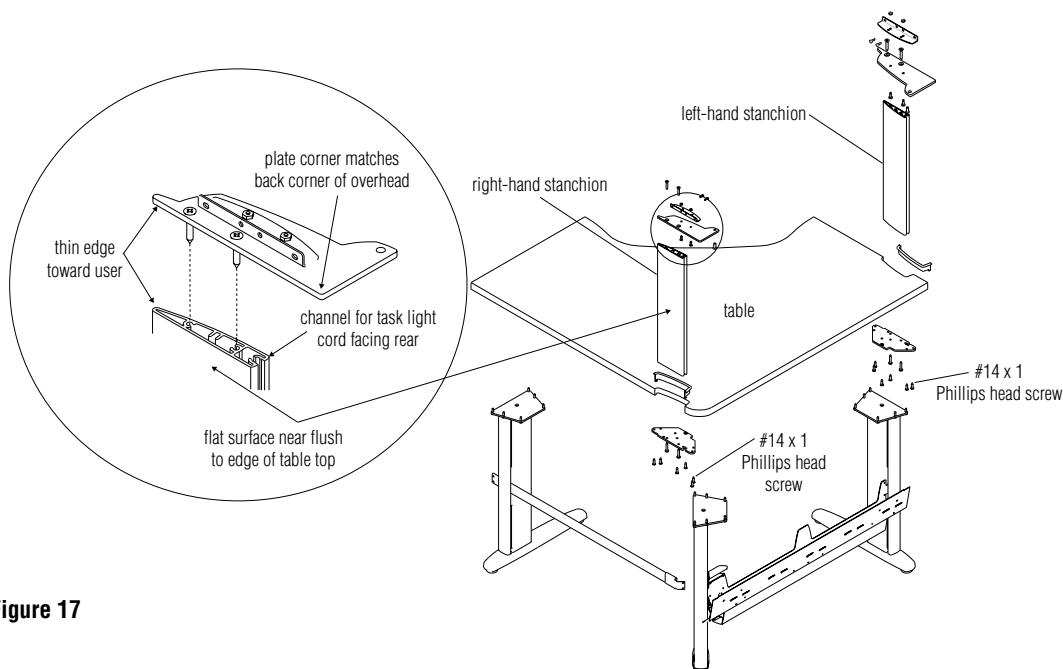

Figure 17
2. Stanchions attach to the table top using six #14 x 1" Phillips head sheet metal screws (Figure 17).